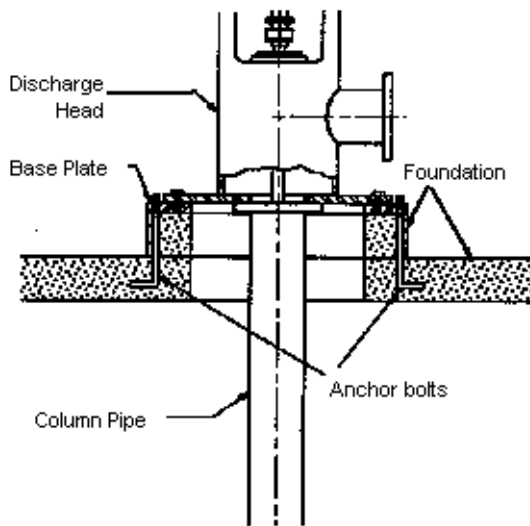

Figure A5.1
4. The foundation plate serves as a good surface for the discharge head. See Figure A5.1.